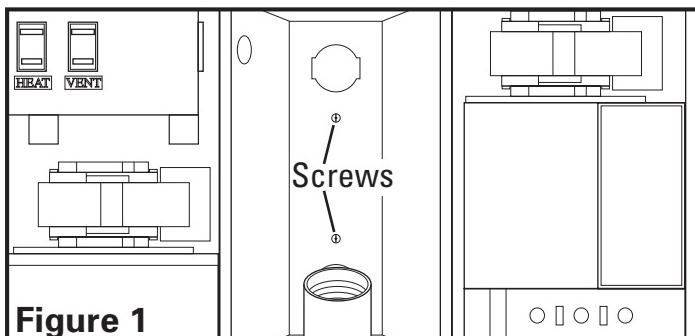

Figure 1
2. Remove the two machine screws holding the light reflector in place. Keep the reflector and screws in the carton until needed so they do not get damaged or lost. (Figure 1).